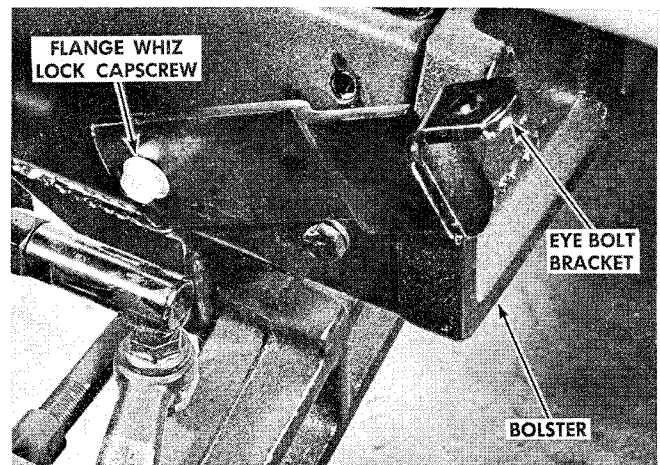

FIGURE 8
7. Remove the two hex head capscrews on each side of tractor bolster. Remove these capscrews one at a time, rear capscrew first. See figure 8. Position the bracket over this hole and install one hex Flange Whiz lock capscrew 3/8-16 x 1. Do not tighten at this time. Remove the front